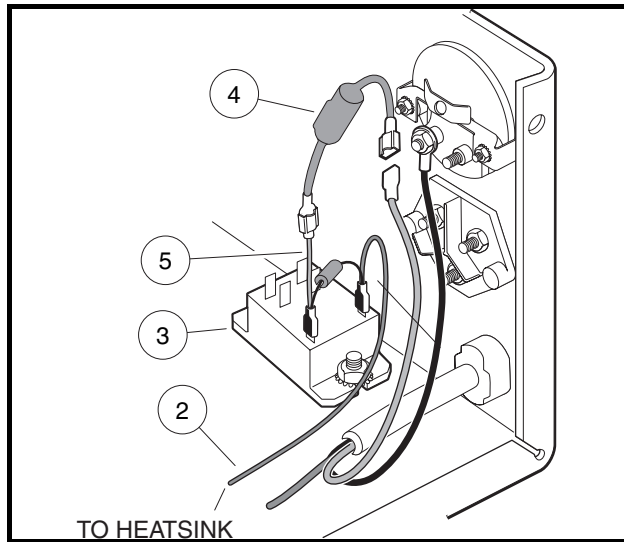

Figure 5-21 Voltage Suppressor
3. Remove nut attaching voltage suppressor (18-gauge red wire) (2) to heatsink (**Figure 5-21, Page 5-32**).
4. Disconnect the limiter (4) at the quick disconnect terminal on the relay side.
5. Disconnect the voltage suppressor wire assembly from charger relay (3).